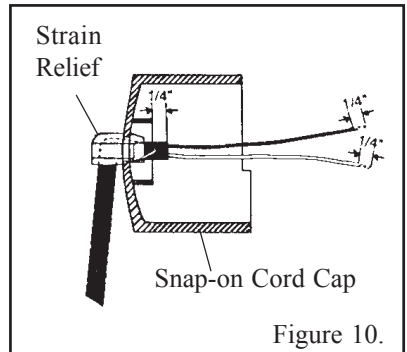

Figure 10.
5. Reinstall the snap-on cord cap to the stripped end of the cord leaving 1/4 inch black insulation protruding into the cap with the strain relief positioned as illustrated in Figure 10.